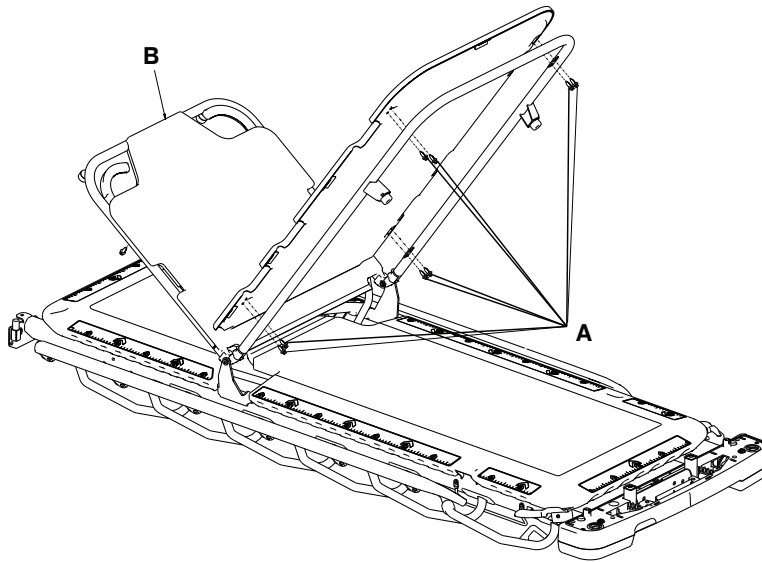

Figure 57 – Fowler skin replacement, Prime X option
3. Using a #2 Phillips screwdriver, unscrew the eight scrollok screws (A) that secure the Fowler backrest skin to the Fowler backrest frame (Figure 57).